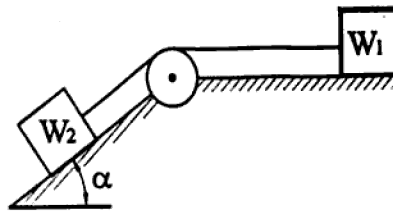

Fig. 6
- a) Two rectangular blocks of weights W_1 and W_2 are connected by a flexible cord and rest upon a horizontal and an inclined plane, respectively, with the cord passing over a pulley as shown in Fig. 6. In the particular case where $W_1 = W_2$ and the coefficient of static friction μ is the same for all contiguous surfaces, then find the angle α of inclination of the inclined plane at which motion of the system will impend. Neglect friction in the pulley. 10